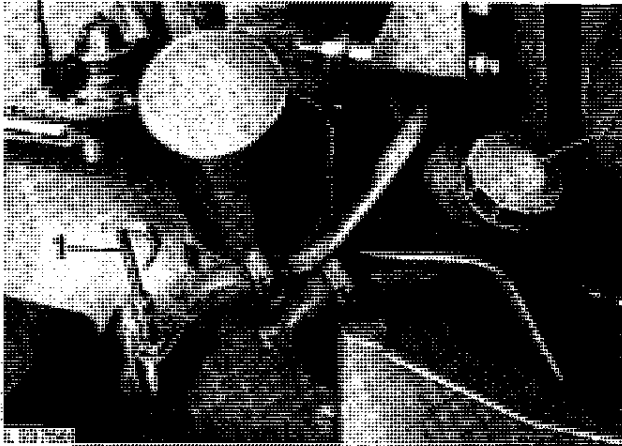

Fig. 1 – Engine Oil Dipstick and Filler Cap
1. Pull out dipstick 1 (fig. 1) and check oil level.